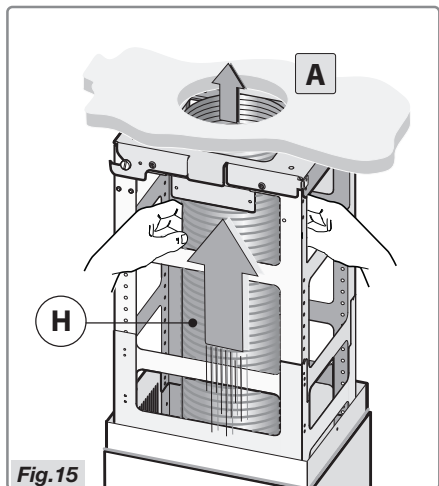

Fig. 15
- Connect the pipe **H** (not supplied) to the air outlet opening **A** (Fig. 15).